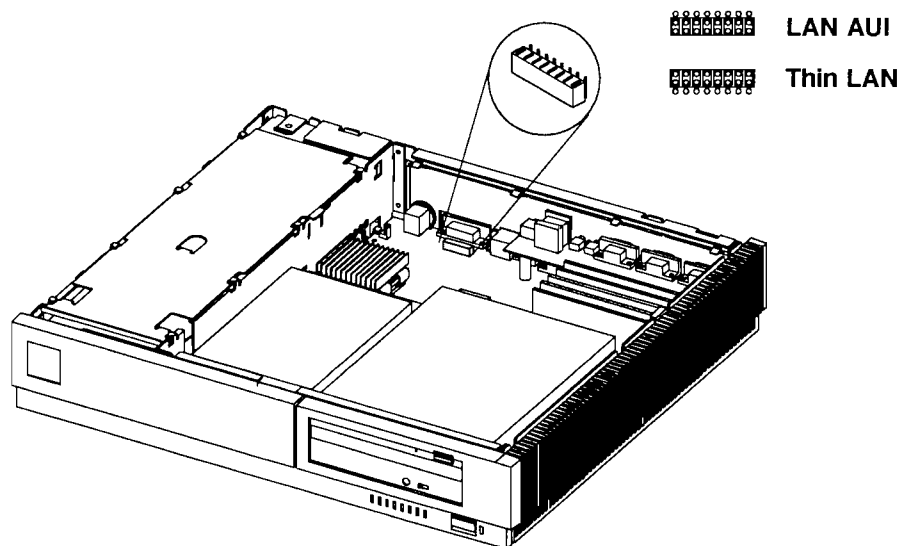

Figure B-6. Changing the LAN Configuration Jumper
2. Use an extractor tool to change the jumpers as shown in Figure B-6.